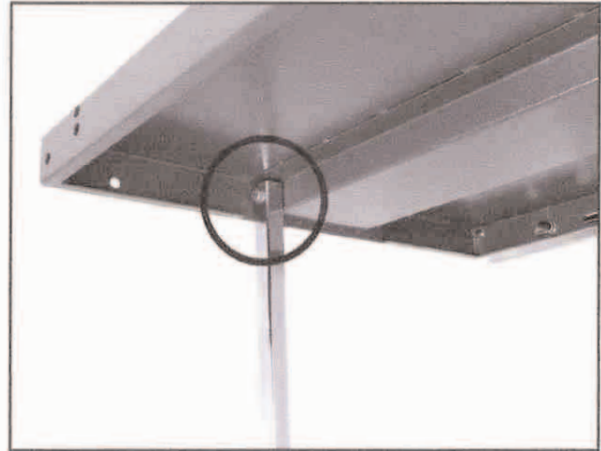

Figure 21. Support leg installed.
4. Attach the support leg (**Figure 21**) to the large extension wing with the M10-1.5 x 45 hex bolt, lock washer, and flat washer.